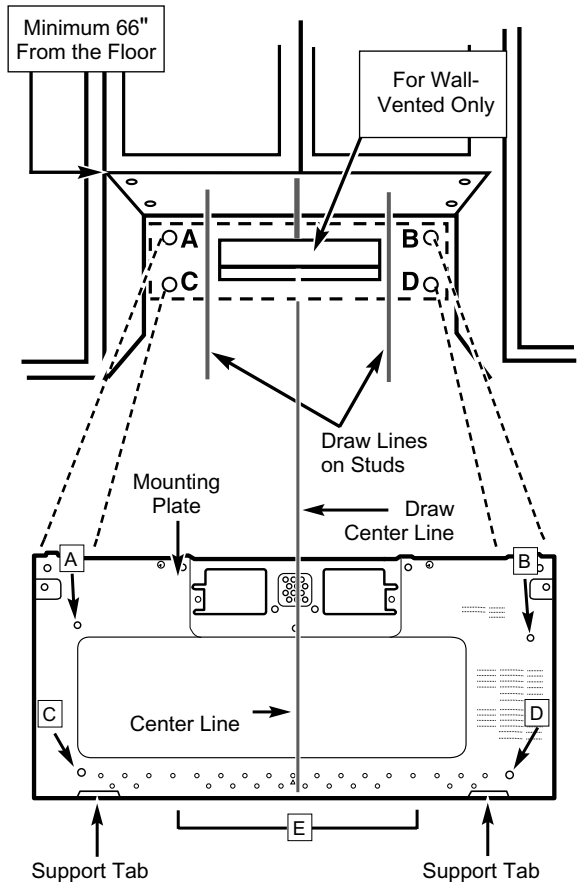

Figure 26
1. Carefully lift microwave oven and hang it on support tabs (See Figure 26) at the bottom of the mounting plate. Reaching through upper cabinet, thread power supply cord through the power supply cord hole in the bottom of the upper cabinet. See Figure 30.